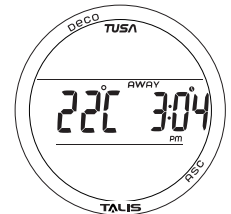

Fig.88 - FREE SURF ALT 2
**FREE Surface ALT 2**, information includes (Fig. 88):